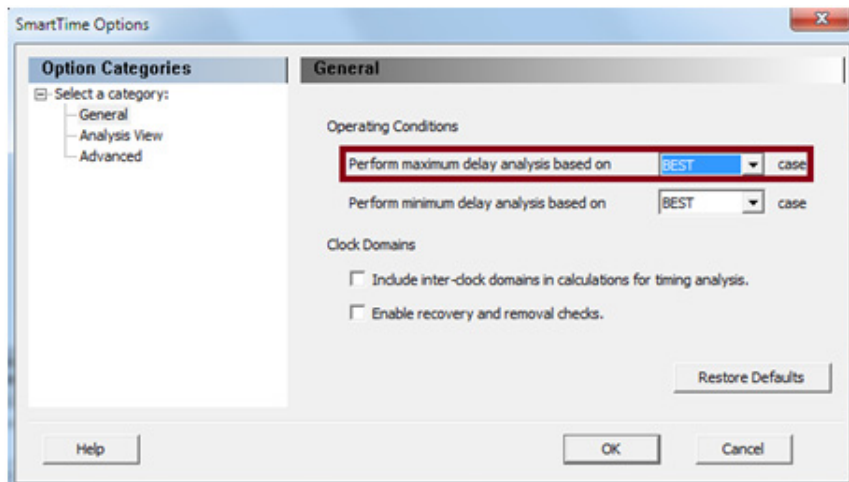

Figure 13 • SmartTime Setting for Best-Case Setup Analysis
1. Open the **SmartTime Options** window and set **Perform maximum delay analysis based on** options to **BEST** case conditions, as shown in the Figure 13.